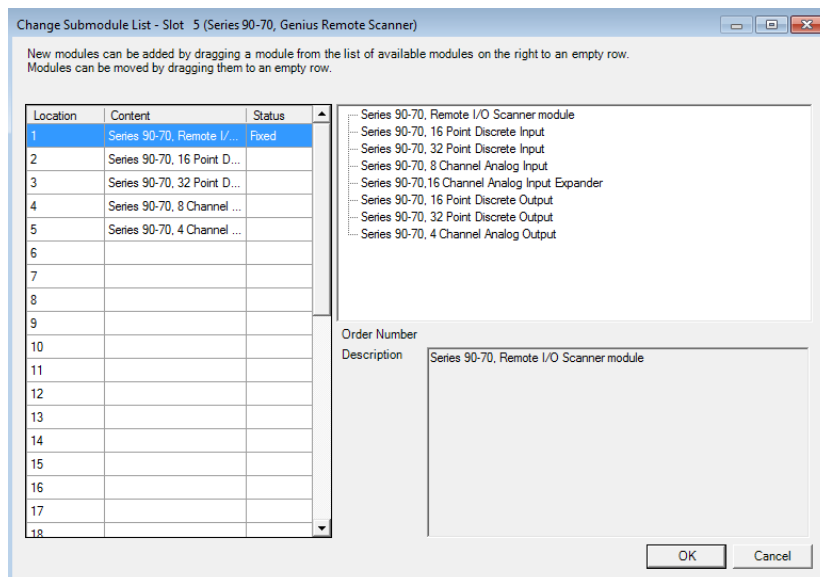

Figure 17: Populating Slots in S90-70 Rack Controlled by Remote I/O Scanner (BEM733)
- b. Drill down into the BEM733. A display of rack I/O will be presented (Figure 17):.